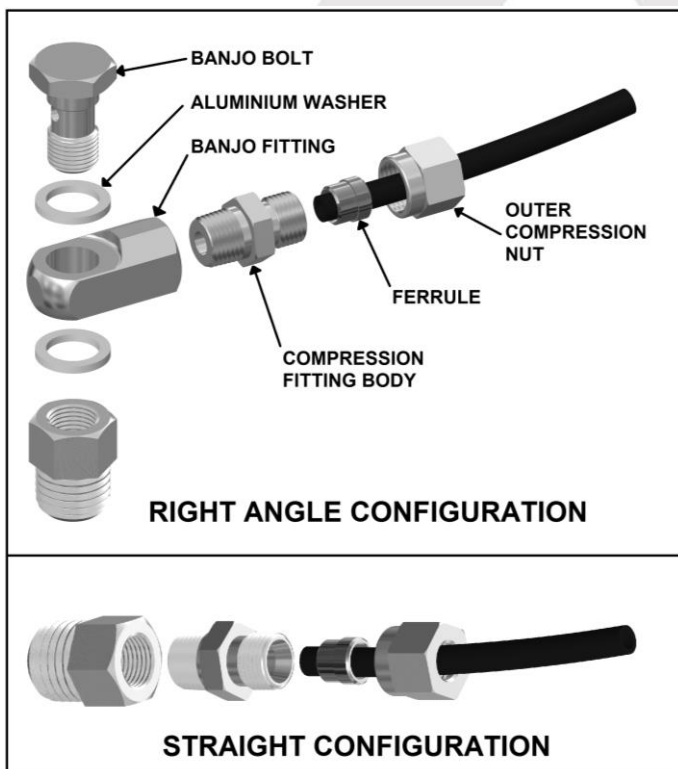

Figure 17.
- Assemble an aluminium washer onto the banjo bolt and insert through the banjo fitting. Assemble second aluminium washer and tighten into bulkhead fitting using a 14mm [9/16"] spanner. (Fig.17.)
- Insert the outer compression nut and ferrule over the air line. Ferrule should be orientated as per Fig.17.
NOTE : When right angle routing of the tube is not required, screw the compression fitting body straight into the bulkhead fitting body (Fig. 17.).